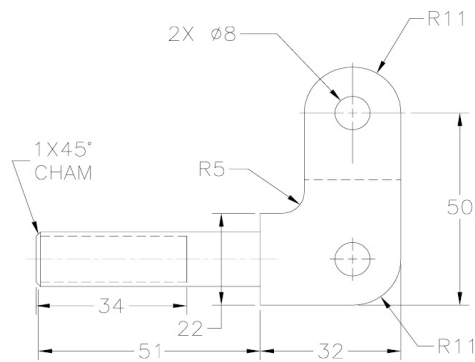
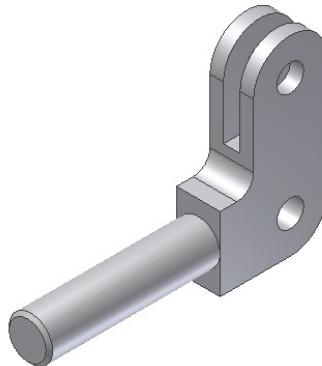

Figure 8-147c Front view of the model
Figure 8-151 Model after chamfering
2. Create the chamfer feature on the end face of the cylindrical feature using the **Distance and Angle** button of the **Chamfer** dialog box, refer to Figure 8-151. For dimensions, refer to Figure 8-147c.